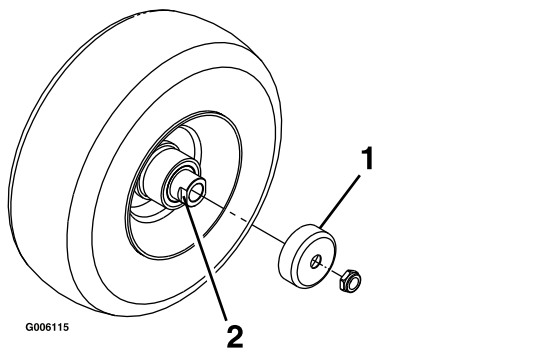

Figure 33
4. Remove the seal guards from the wheel hub (Figure 33).
2. If you are replacing the inner filter, carefully slide it into the filter body (Figure 33).
3. Carefully slide the primary filter over the safety filter (Figure 33).
4. Install the air-cleaner cover and secure the latches (Figure 33).